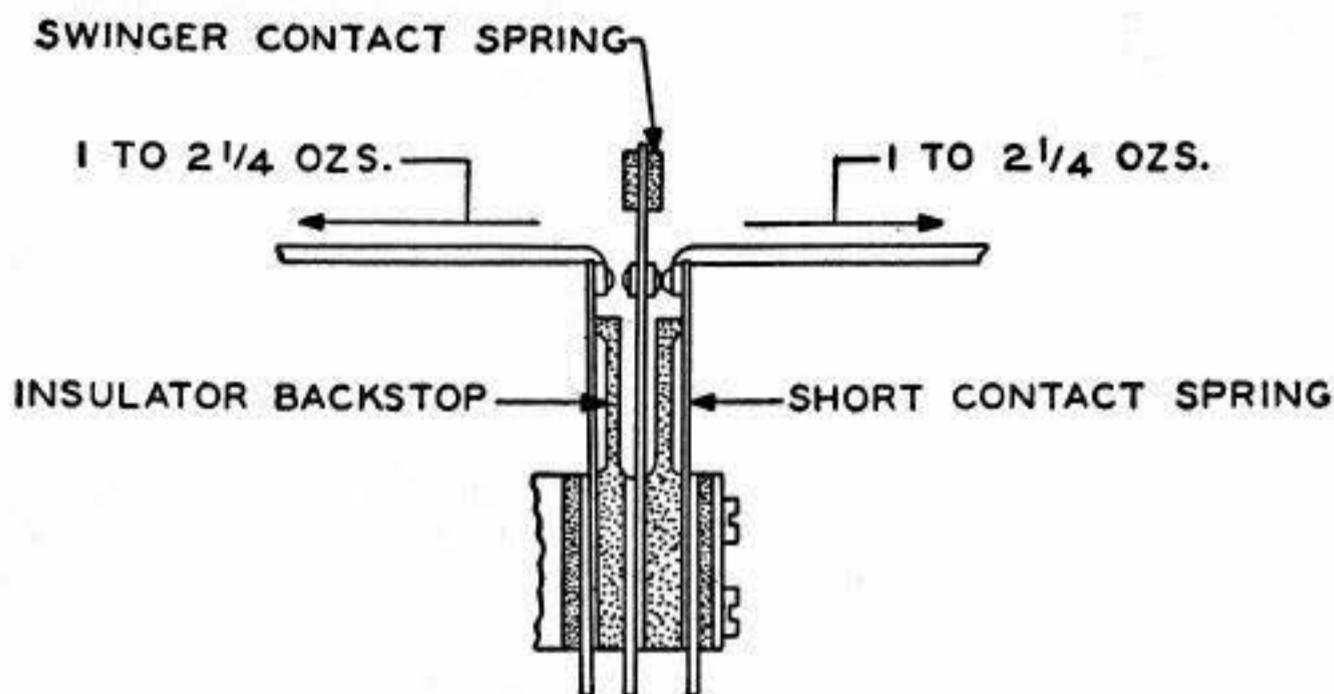

Fig 39
- (b) Hook an 8-oz scale as close as possible to the contact point of the short contact spring and pull horizontally at right angles to the backstop. Each portion of the bifurcated short springs should have a tension of Min 1 oz, Max $2-1/4$ oz against its associated backstop. The contact swinger should be held clear when checking the upper spring. To adjust, bend the contact spring. **Fig 39**